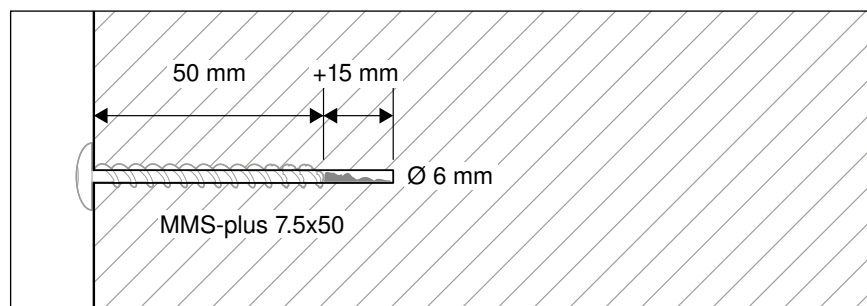

Fig. 11: Drill depth for fire protection bolt tie
- Drill the ceiling holes. For the fire protection bolt ties MMS-plus 7.5x50, ensure a drilling depth of at least 65 mm, Ø 6 mm (see Fig. 11 on page 17).